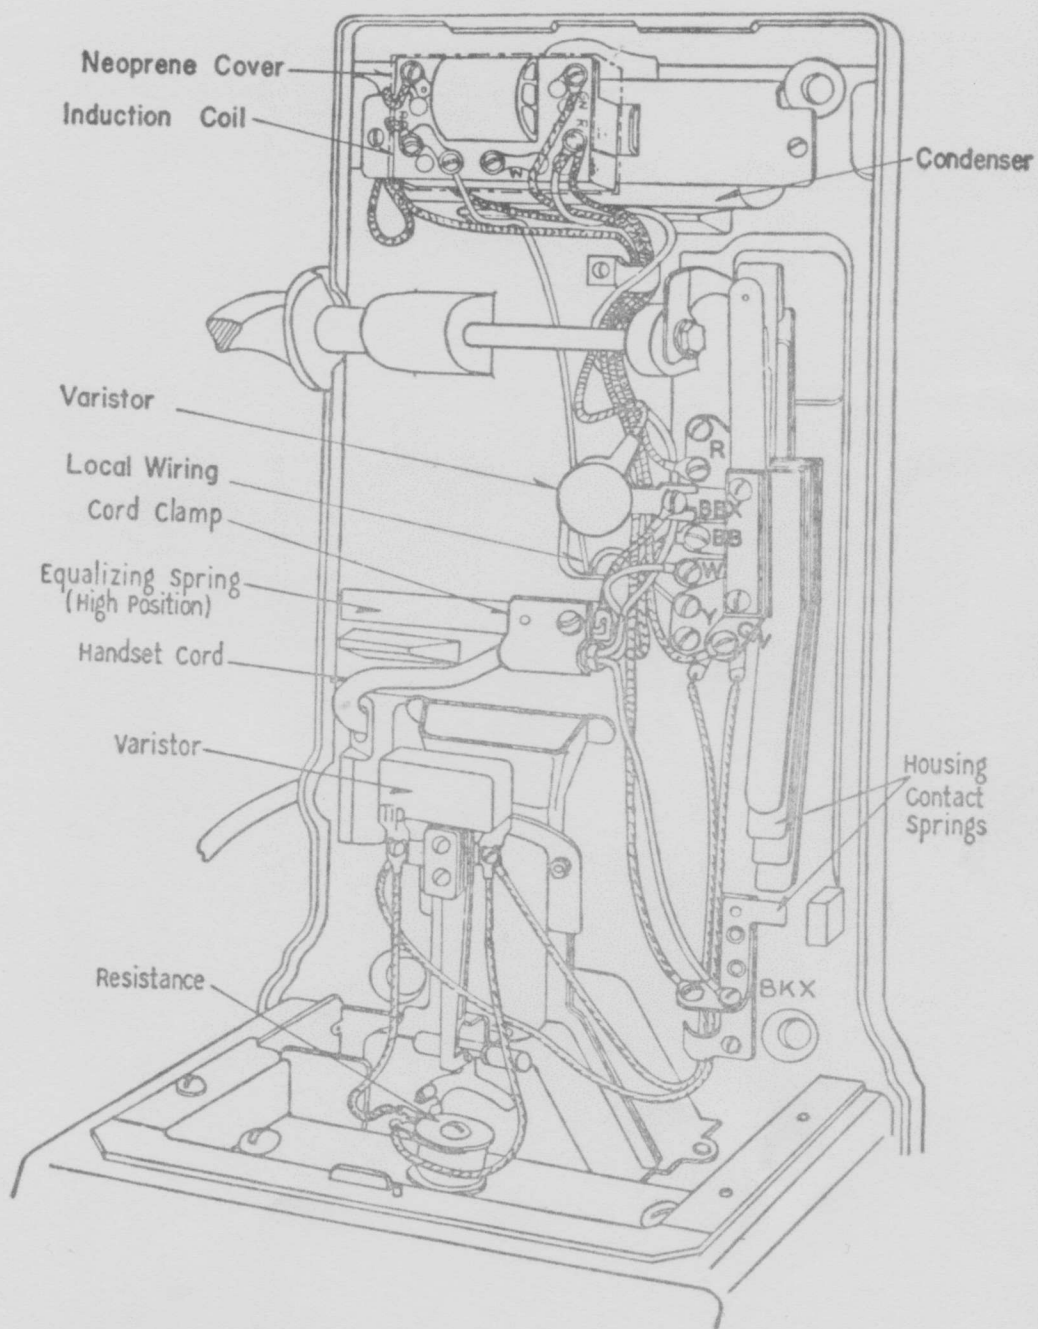

Fig. 22—183-type Coin Collector—Lower Housing and Backplate Assembly
- B. 150-type dial postpayment collector is similar except wires to lower housing go to hopper contacts (see Fig. 22) instead of to coin relay.
- B. 163A or B collector is similar except wires to lower housing go to hopper contacts (see Fig. 22) instead of to coin relay.
- B. 163C or D collector is similar except wires to lower housing go to hopper contacts (see Fig. 22) instead of to coin relay.
- A. The later types of these collectors may have induction coil inverted as shown in Fig. 22.